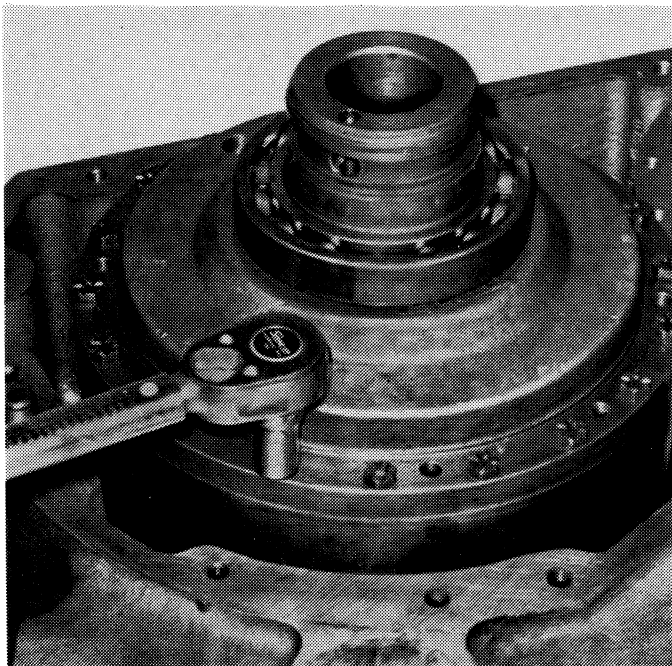

Figure 9-16. Installing Clutch Cylinder Assembly.
8. Install the clutch cylinder and piston assemblies and secure them with 16 place-head screws. Torque the screws 24 lb. ft. See Figure 9-16.